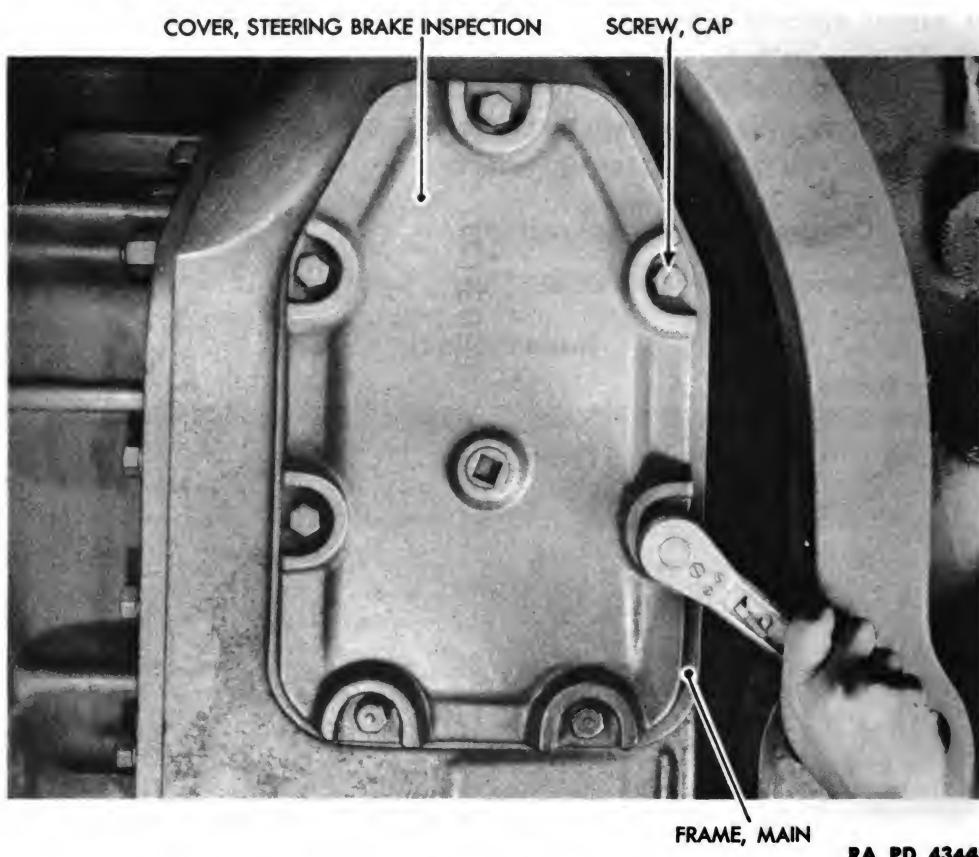

Figure 72 — Steering Brake Inspection Cover Removal
(1) REMOVE STEERING BRAKE INSPECTION COVER (fig. 72).